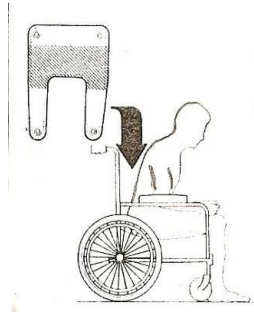

Figure 1
2. Slide the sling down behind the back of the client (the grab handle should be at the top, facing you) and tuck the bottom of the sling as low as possible underneath the buttock area. (figure 1)